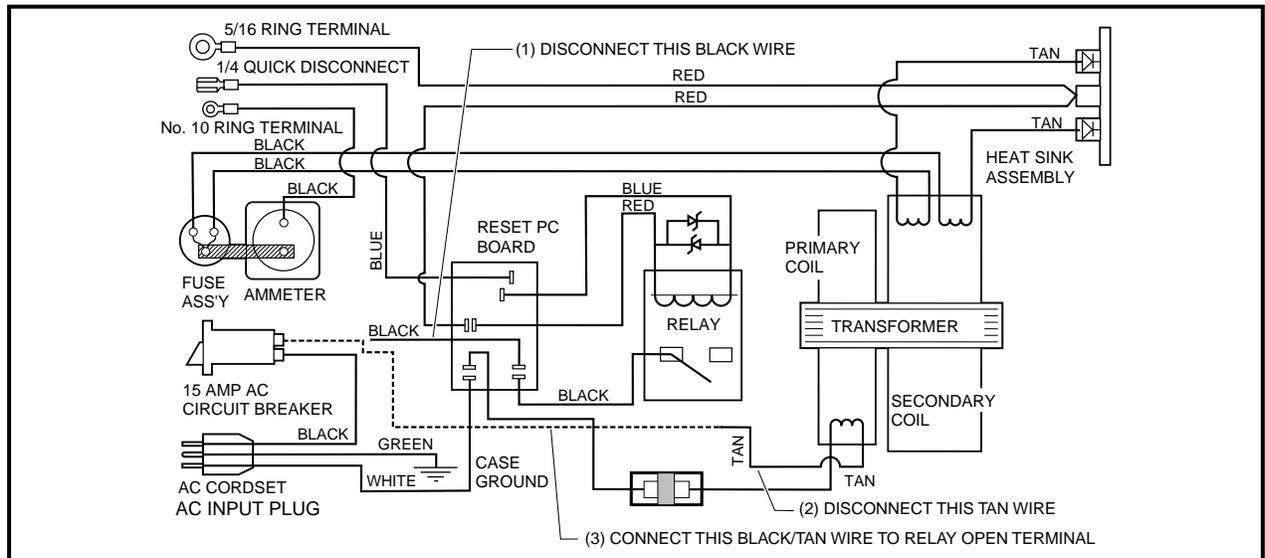

Figure 14-28 Onboard Charger Wiring Diagram
3. Disconnect black 10 gauge wire at the circuit breaker (**Figure 14-28, Page 14-27**).
4. Disconnect tan transformer primary coil wire from relay (**Figure 14-28, Page 14-27**).
5. Connect tan transformer wire to open terminal on the circuit breaker (**Figure 14-28, Page 14-27**).